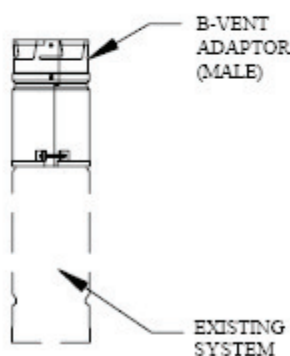

Fig 23
3. **Extending an Existing Competitors System.** To continue an existing competitors system up towards the termination using Dura-Vent Type B Gas Vent, connect a **Male Adaptor** to the last section of the system, as shown in Figure 23, insuring that the inner liner of the